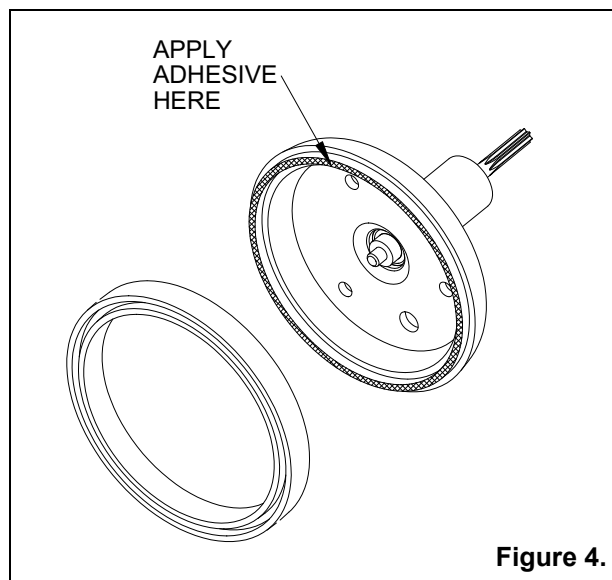

Figure 4.
3. Apply a small bead of Loctite 426 adhesive (MBW #17885) to the lip on the engine mounting flange. See Figure 4.